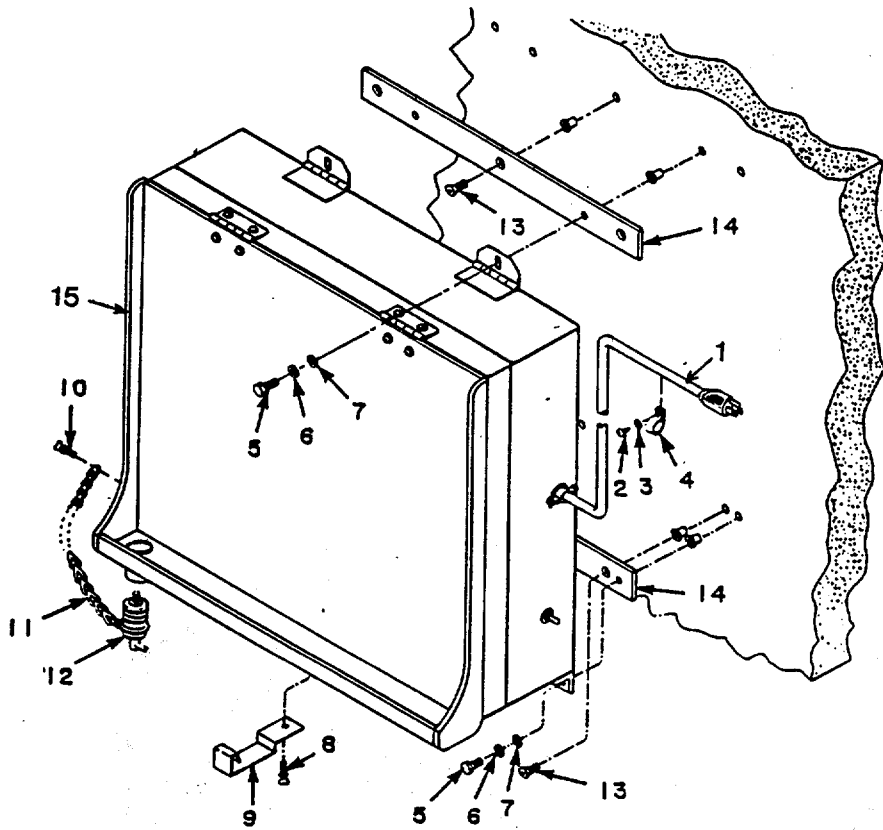
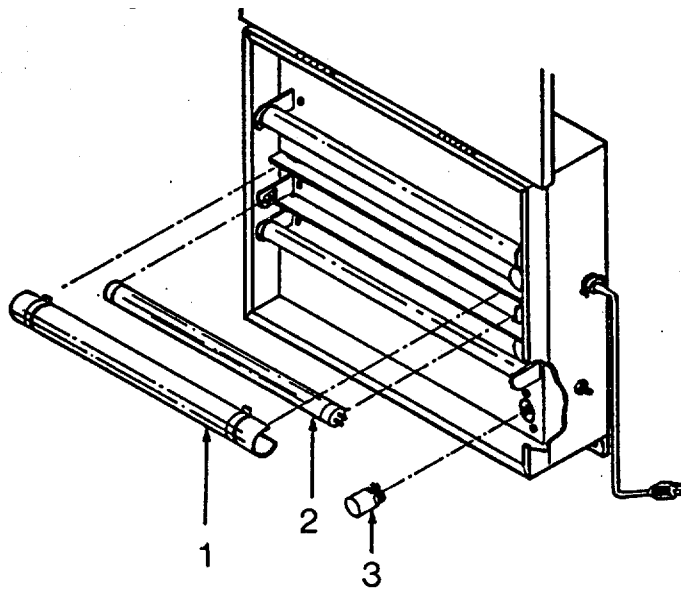

Figure 4-28. Viewing Light Assembly
Figure 4-29. Viewing Light Assembly Bulbs
(1) Disconnect viewing light power cord (1, Figure 4-28) from wall receptacle.
(2) Remove cable clamp screws (2), lockwashers (3), and cable clamps (4).
(3) Remove viewing light bolts (5), lockwashers (6), and flat washers (7), and remove viewing light assembly from wall.
- (6) Remove mounting strip screws (13) if necessary.
- (7) Remove mounting strips (14) if necessary.
- (8) Lift front viewing cover (15) away from viewing light.
- (9) Press filter (1, Figure 4-29) ends slightly and remove.
- (10) Rotate fluorescent tubes (2) 90° and remove from tube sockets.
- (17) Remove nut and switch (6).
- (18) Remove screw (7) and nut (8). Tag and disconnect wires.
- (19) Remove power cord (9) if necessary.
- (20) Install viewing light power cord (9).
- (21) Install viewing light screw (7) and nut (8). Connect wires and remove tags.
- (22) Install viewing light switch and nut (6).
- (23) Install viewing light ballast (5).
- (24) Install viewing light nuts (4).
- (25) Install viewing light wire nuts (3).
- (26) Install viewing light back cover (2) and screws (1).
- (27) Install starters (3, Figure 4-29) in socket and rotate clockwise.
- (28) Install fluorescent tubes (2) in tube socket and rotate 90°.
- (29) Press filter (1) ends slightly and install.
- (30) Close front viewing cover (15, Figure 4-28).
- (31) Install mounting strips (14) and screws (13) on wall.
- (32) Install bolts (5), lockwashers (6), and flat washers (7) and secure viewing light (1) to wall.
- (33) Install viewing light screws (2), lockwashers (3), and cable clamps (4).
- (34) Connect power cord to proper receptacle.
4-27. **VIEWING LIGHT ASSEMBLY.** - Continuedb. Replace. - Continued (See Figure 4-29.)